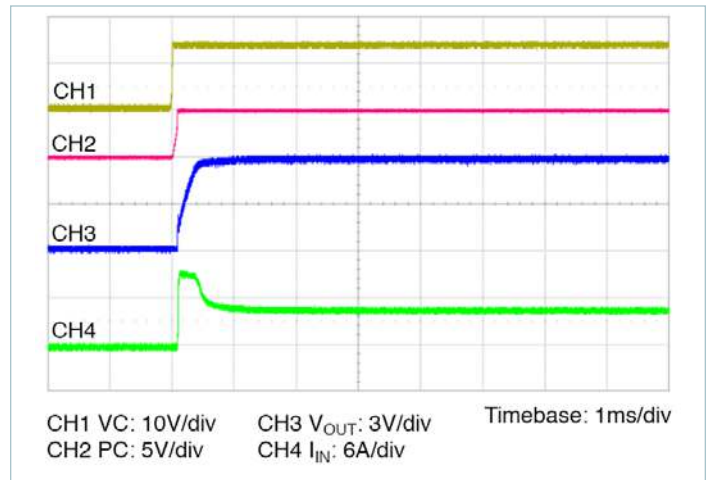

Figure 14 — Start up from application of VC; V_{IN} pre-applied $C_{OUT} = 4000\mu\text{F}$
- **Stand-alone operation (VC applied after V_{IN}):** In this case the VTM output will begin to rise upon the application of the VC voltage (See Figure 14). The Adaptive Soft-Start Circuit may vary the output rate of rise in order to limit the inrush current to its maximum level. When starting into high capacitance or a short, the output current will be limited for a maximum of 1200 μ s. After this period, the Adaptive Soft-Start Circuit will time out and the VTM module may shut down. No restart will be attempted until VC is re-applied or PC is toggled. The maximum output capacitance is limited to 4000 μ F in this mode of operation to ensure a successful start.